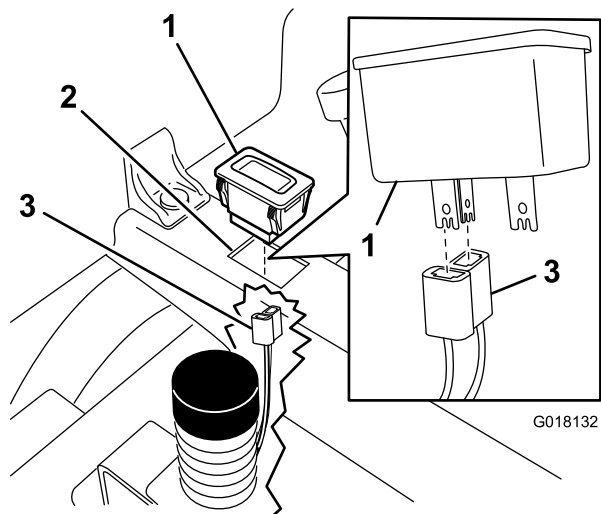

Figure 1
Note: Insert the 2 perpendicular prongs of the hour meter into the 2 slots in the hour meter connector as shown in Figure 1.
5. Install the hour meter into the cutout (Figure 1).